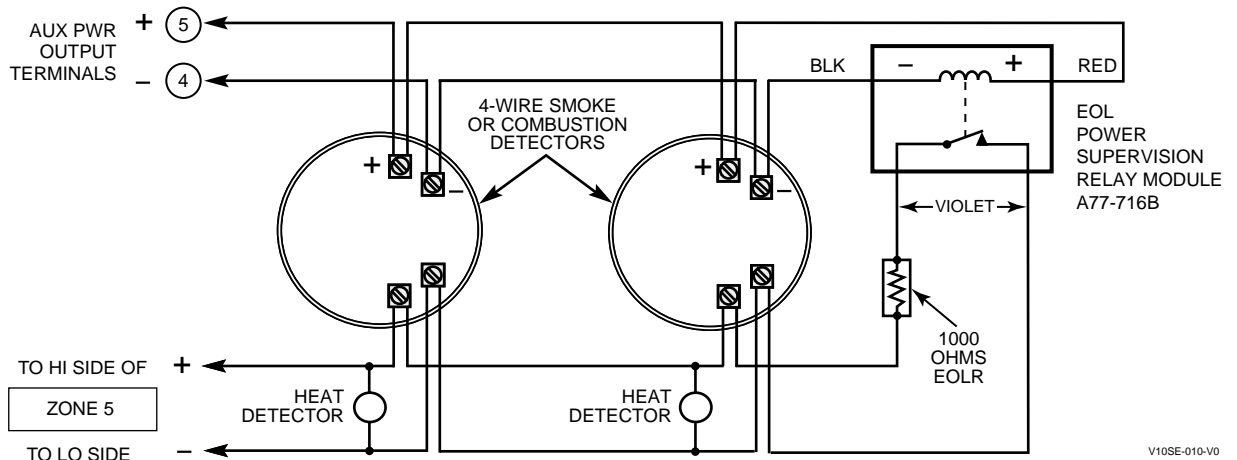

Figure 7. 4-wire Smoke Detector Connections (Zone 5)
1. Connect 12-volt power for the detectors from Auxiliary Power terminals **4** and **5** (which will interrupt power for fire alarm reset). Observe proper polarity when connecting detectors. See *Figure 7*.